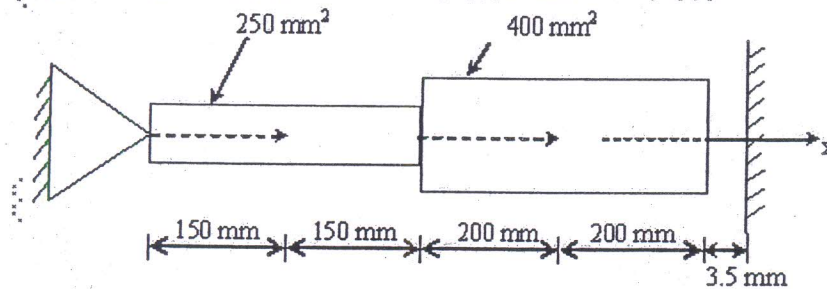

Figure.6
b) Determine the nodal displacements, element stresses and support reactions for the bar as shown in Figure.6. Take $E = 200 \times 10^9 \text{ N/m}^2$. [15]